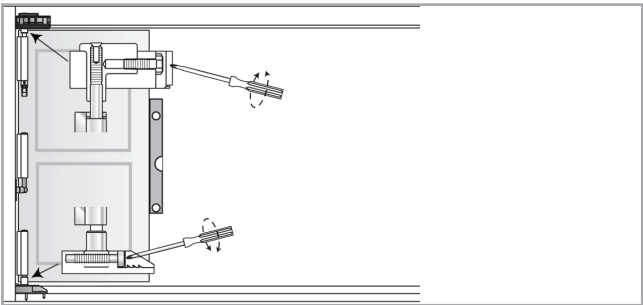

Figure 39: Horizontal adjustment roller locations
1. With the doors open, using a pozi screwdriver adjust the horizontal screws found in the top and bottom rollers (as shown in Figure 39).